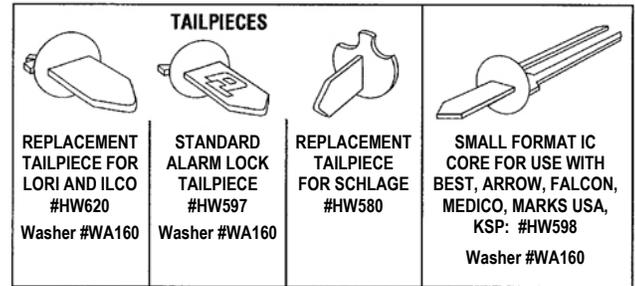
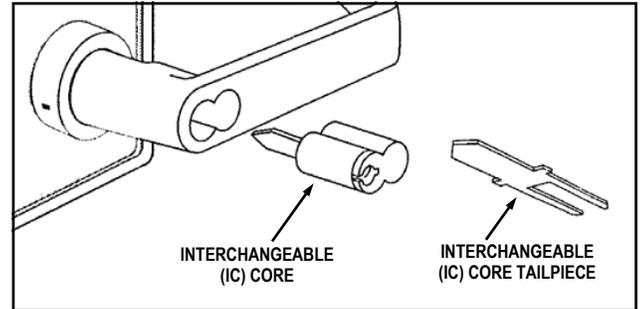

FIG. 21: STANDARD AND IC CORE TAILPIECE VARIETIES
FIG. 22: INSTALL INTERCHANGEABLE (IC) CORE
- Insert IC core tailpiece (shown in Fig. 21 and Fig. 22) into interchangeable core. Use ONLY an Alarm Lock® IC core tailpiece.
- Key and tailpiece orientation are incorrect (See Fig. 21 and 22).
- Lever Catch not fully engaged. Lock is not centered on door. Check for proper tailpiece and proper orientation of tailpiece (See Fig. 21 and 22).